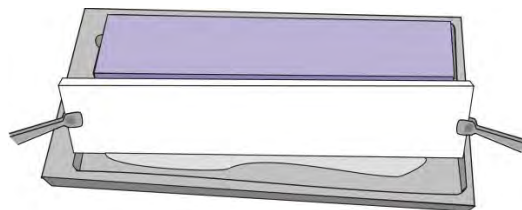

Fig. 4
5. Remove excess electrode buffer from the wicks by tilting the electrode wicks along one long edge and dab it on the PaperPool bottom (fig. 4).